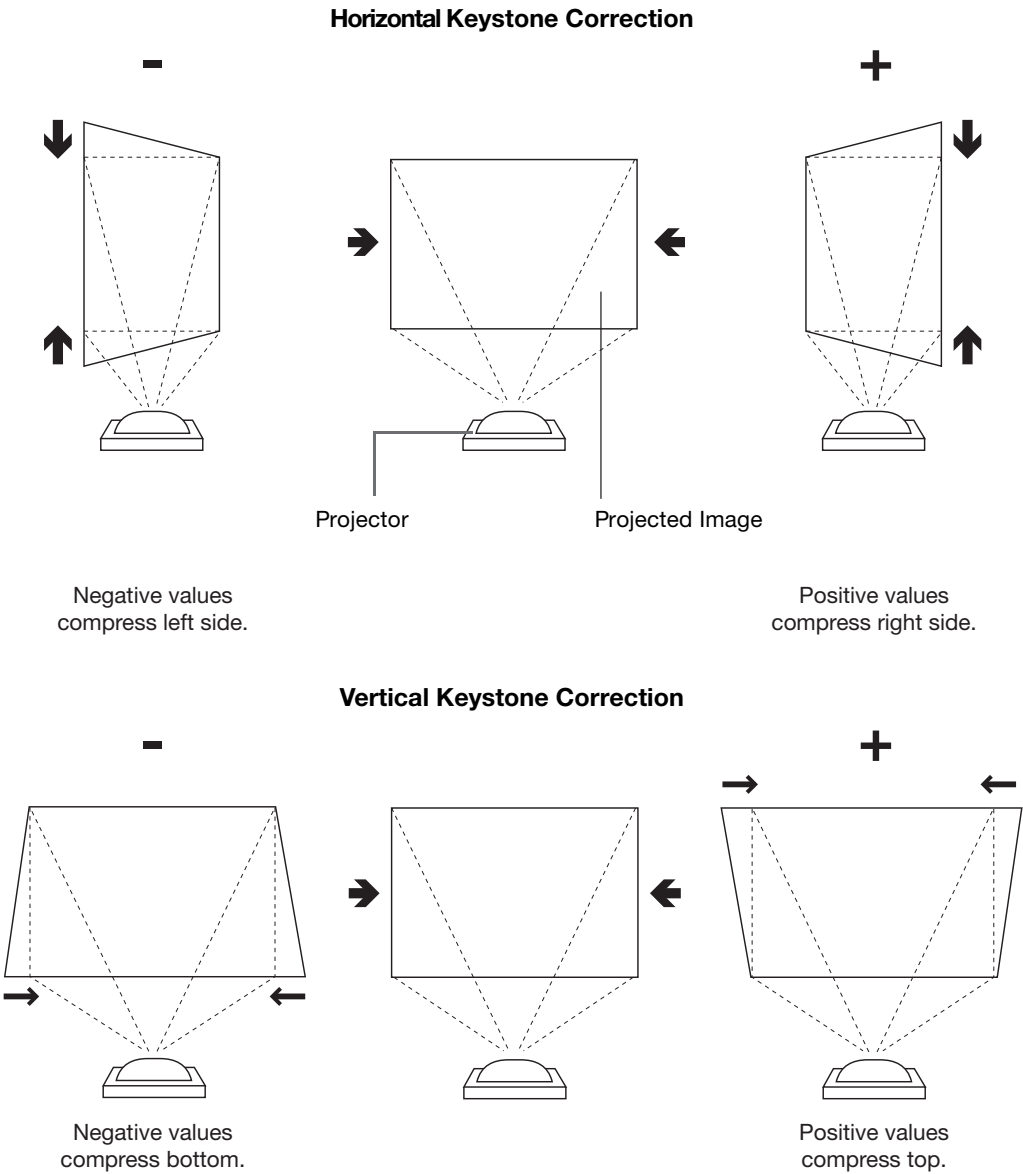

Figure 4-6. Keystone Correction
- V. Keystone/H. Keystone:** To correct distortion resulting from the angle of projection, select V. Keystone or H. Keystone from the GeoCorrection menu and use the ◀ or ▶ button to make the image rectangular. See Figure 4-6.